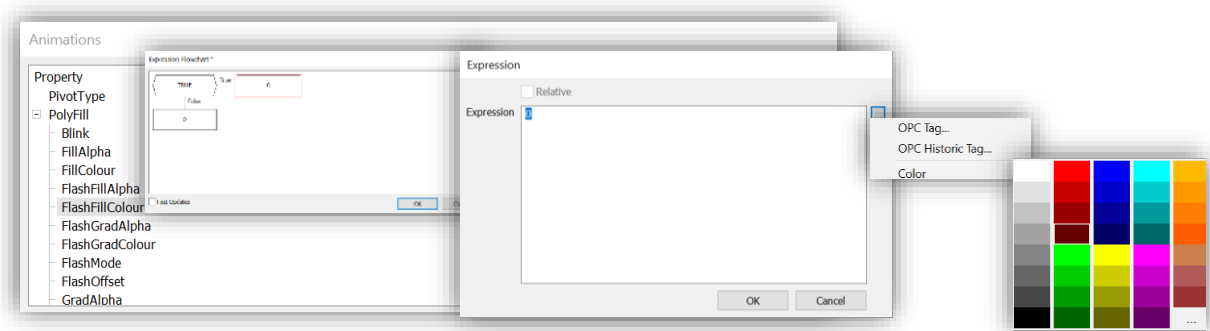

Figure 42. How to select colour when statement is TRUE.
- Double click the box at the right of the decision box to choose the colour green when TRUE (Figure 42).